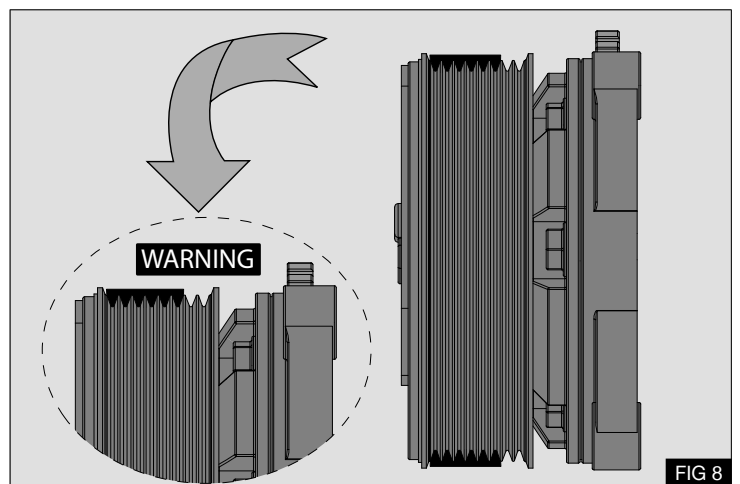

FIG 8
2. Position belt in compressor grooves indicated - Fig 8.